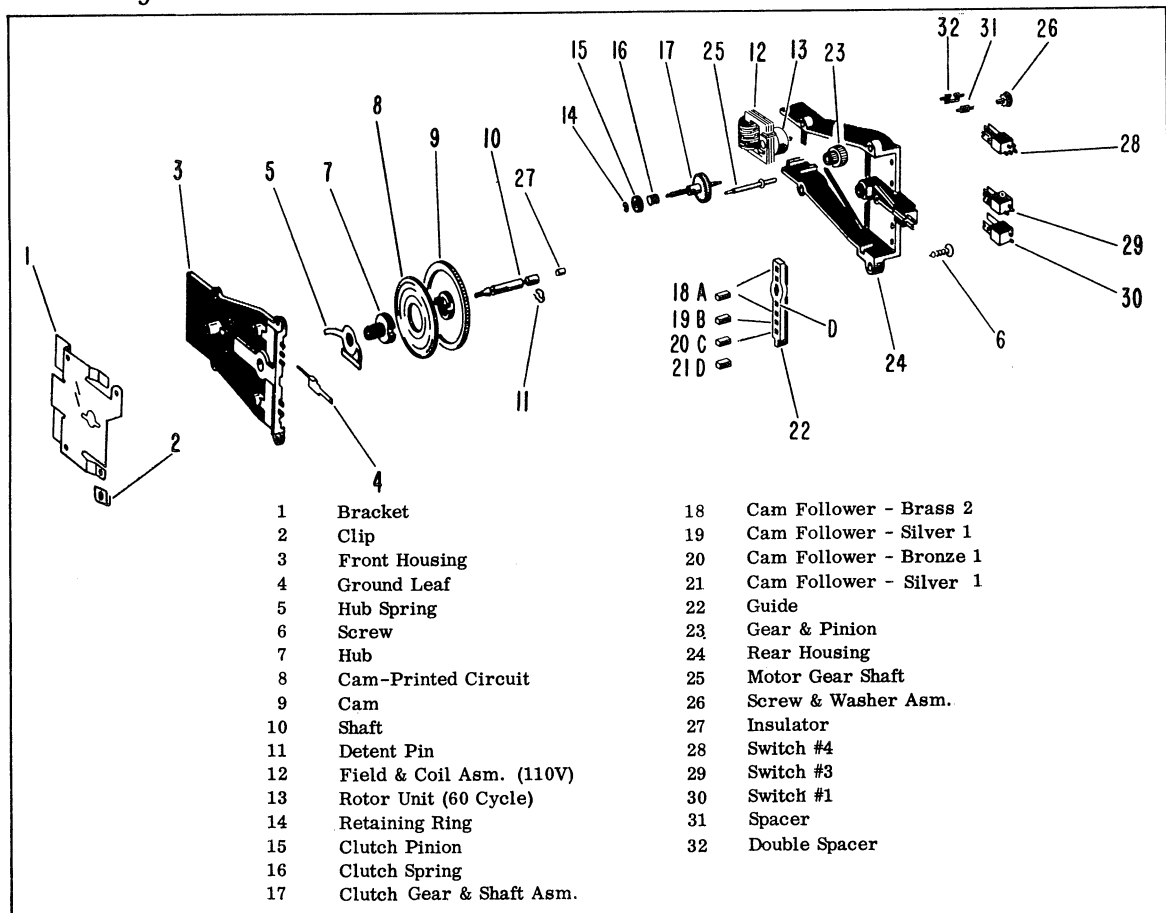

Figure 13
All parts and components of the timer can be changed separately. However, since there are so many models that have numerous cycles it is imperative that the part is ordered by model number. The timer of cycle control shown in Figure 13 is typical of all General-Electric cycle controls. The illustration shows a cycle control with 3 switches. There are others that use 4 switches. The individual switches are easily removed. They are secured by a keeper and each switch is held by one screw item 6 in Figure 13. The switches are mounted to the rear housing, item 24, Figure 13. It is important to note that some of the switches have insulated spacers that mount between the contact blades of the switches. These spacers will sometimes break and fall out of the switch, and even though the switch will appear servicable, the missing spacer can make the difference in erratic operation. The cam followers are of different lengths. These are items 18A-19B-20C-21D in Figure 13. The shape of the cam followers is such that they can not be inserted